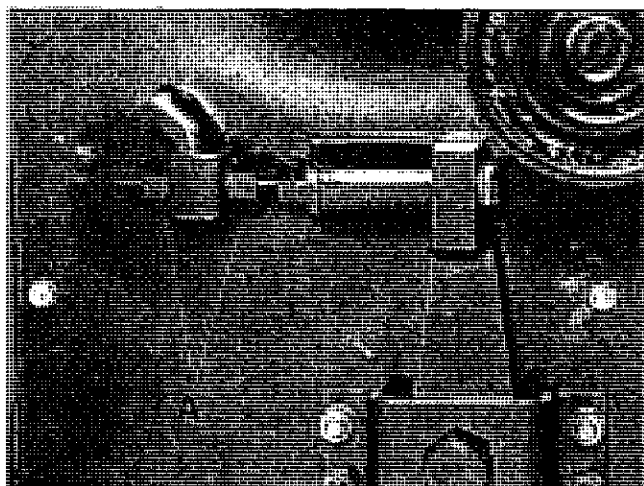

Figure 2.19: Drive End Adjustment (Shields Removed for Clarity).
Protection against rock damage to the grab rolls is provided by flex cushioned arms (see Figures 2.19 and 2.20) on the drive and discharge ends, allowing the grab rolls to move when rocks enter the grab roll bed. Set flex cushion at 2-3/4" including washer on drive end.
To maximize cleaning and reduce loss, increase spacing for larger beets and reduce spacing for small beets. To adjust, loosen nuts (A) (see Figures 2.19 and 2.20) on adjusting bolt and adjust grab roll to desired spacing. Retighten nuts.